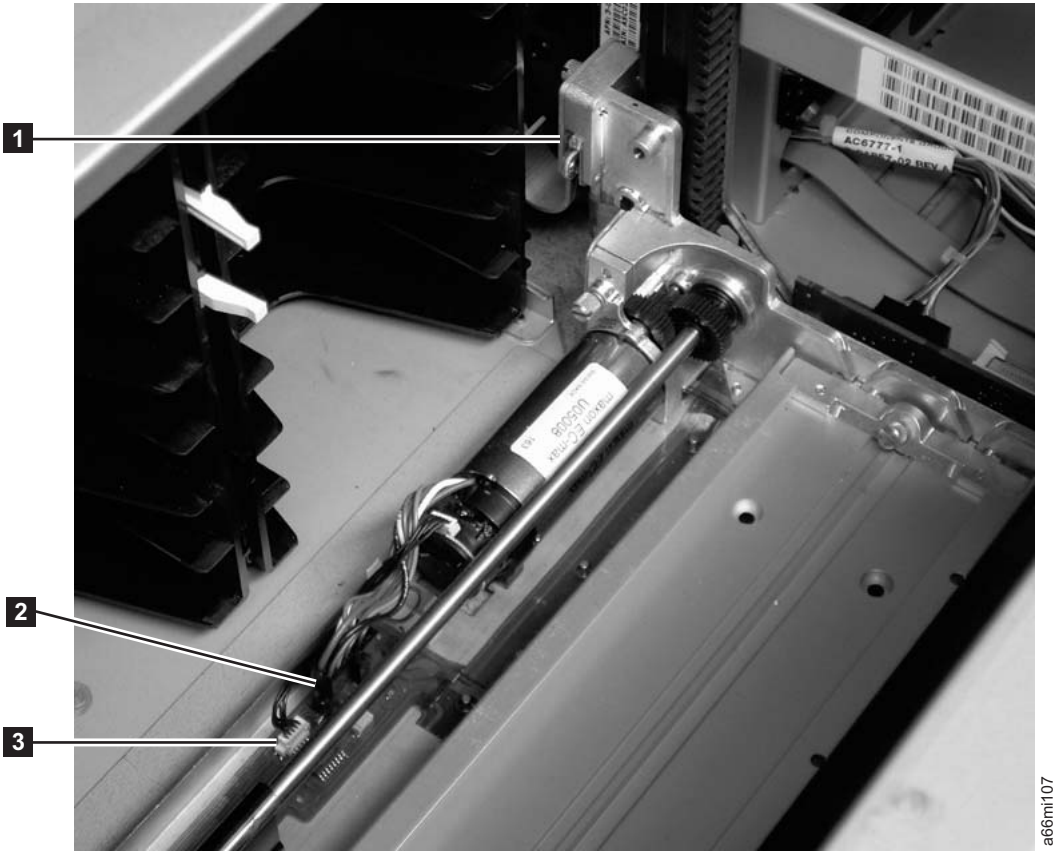
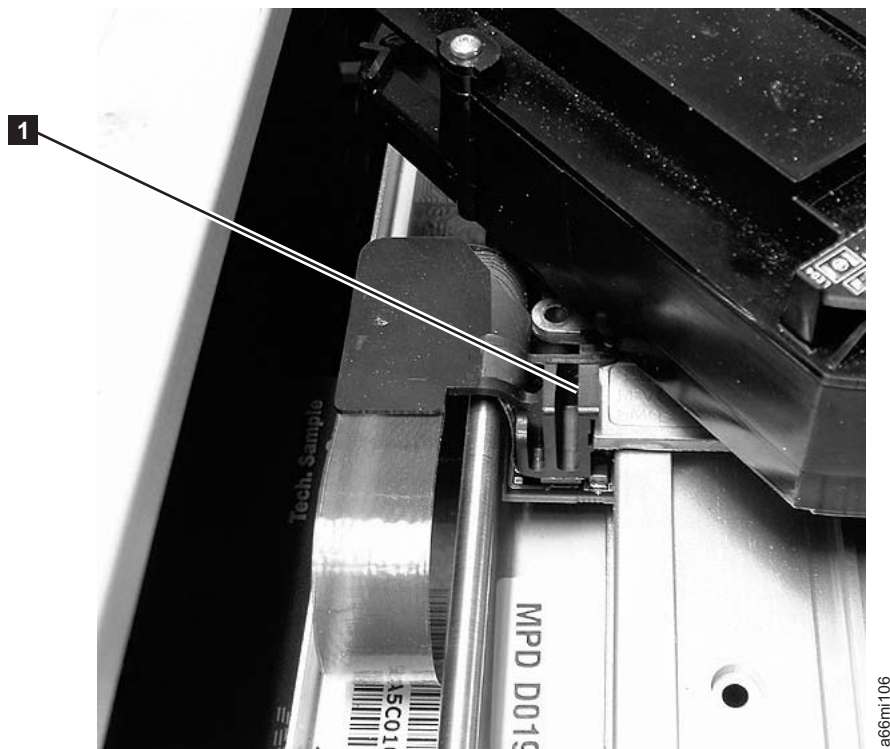

Figure 7-14. Y-axis and Y motor assembly connectors
Figure 7-15. Picker assembly connector
6. Visually check, and reseat if necessary, all of the connectors on the Y-axis assembly. See **1**, **2**, and **3** in Figure 7-14 on page 7-26, and also on the Picker Assembly. See **1** in Figure 7-15 on page 7-27.